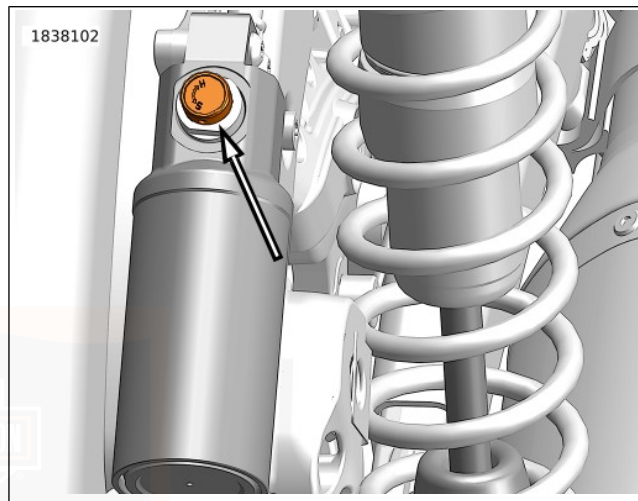

Figure 14. Compression Adjuster
2. See Figure 14. Compression damping adjustment.